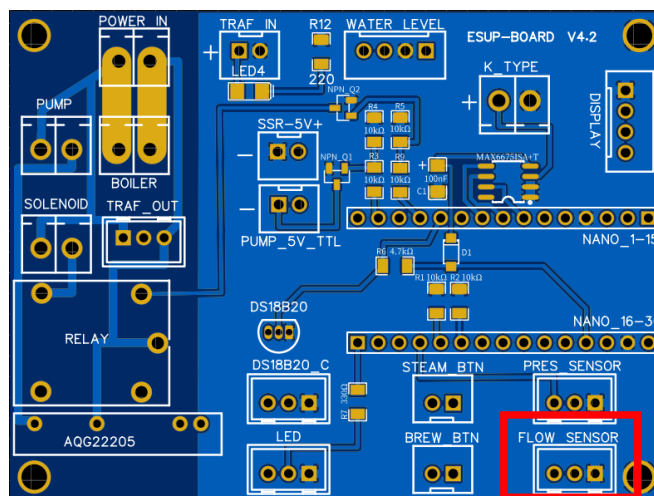

Fig. 6.4
- Take the sensor cable, connect it to the sensor then pass it through the hole to the main board and plug it to FLOW_SENSOR port (fig.6.4).